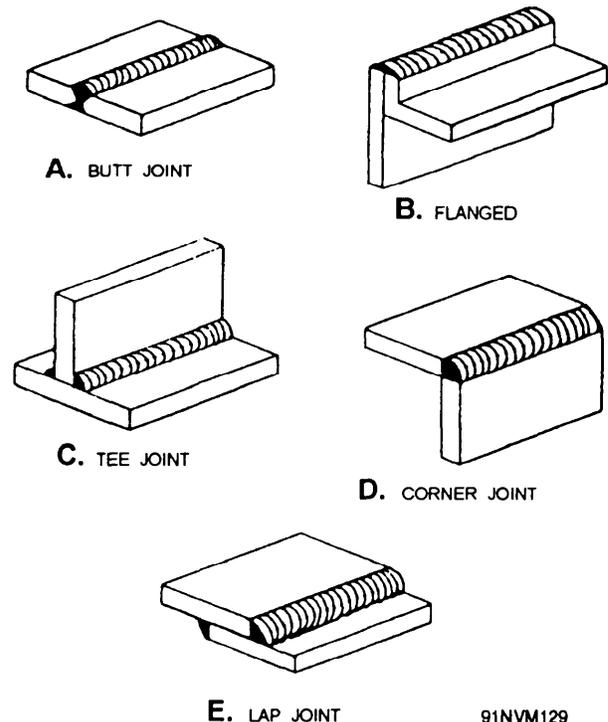

Figure 7-2.—Types of welded joints.
There are many variations, but every joint you weld will be one of these basic types. The joint area in each case is indicated by the shaded portion of the drawings in figure 7-2.
**EDGE** joints also may be used to join parallel members lying in the same plane, but as a rule one of the members is flanged. The edge joint in figure 7-2 shows that the members need not be in the same plane, as the members of a butt joint must be. With edge joints, the joint area is between the contacting surfaces of the members. While this type of joint has some applications in plate work, it is more often used in sheet metal work. In many cases, no filler metal is used in joining edge joints by the gas welding process. The edges are fused together, and the base metal supplies the weld filler metal. Occasionally the edge joint is used to join reinforcing plates to the flanges of I-beams and the edges of angles.
**CORNER** joints and **TEE** joints are used to join two members located at approximately right angles to each other. The joint area in each case is between the end of one member and the side or edge of another. The corner joint forms an L-shape (fig. 7-2). Corner joints are used to make tanks, boxes, box frames, and similar objects. Only